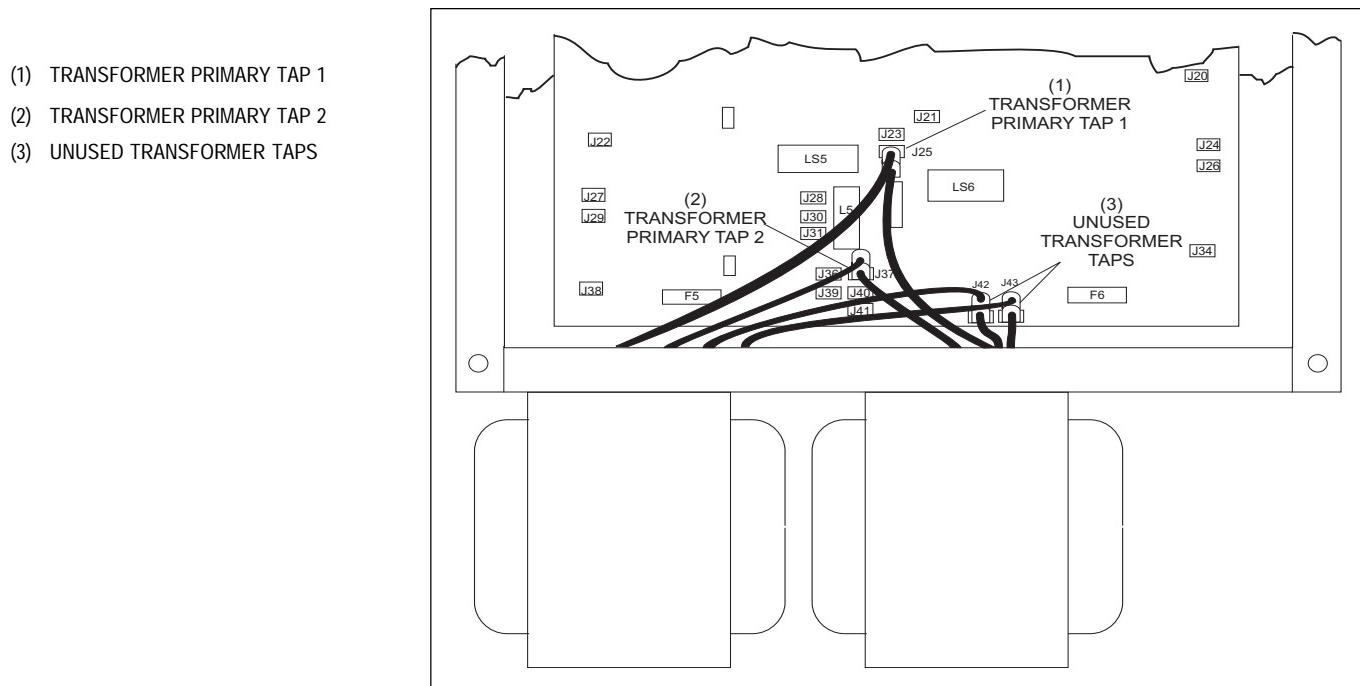

Figure 3-5. *Nexgen Voltage Settings*
- The transformers connections to the High Voltage PCB depends on the operating voltage of the pinsetter. Reference *Figure 3-5 & Table 1*.